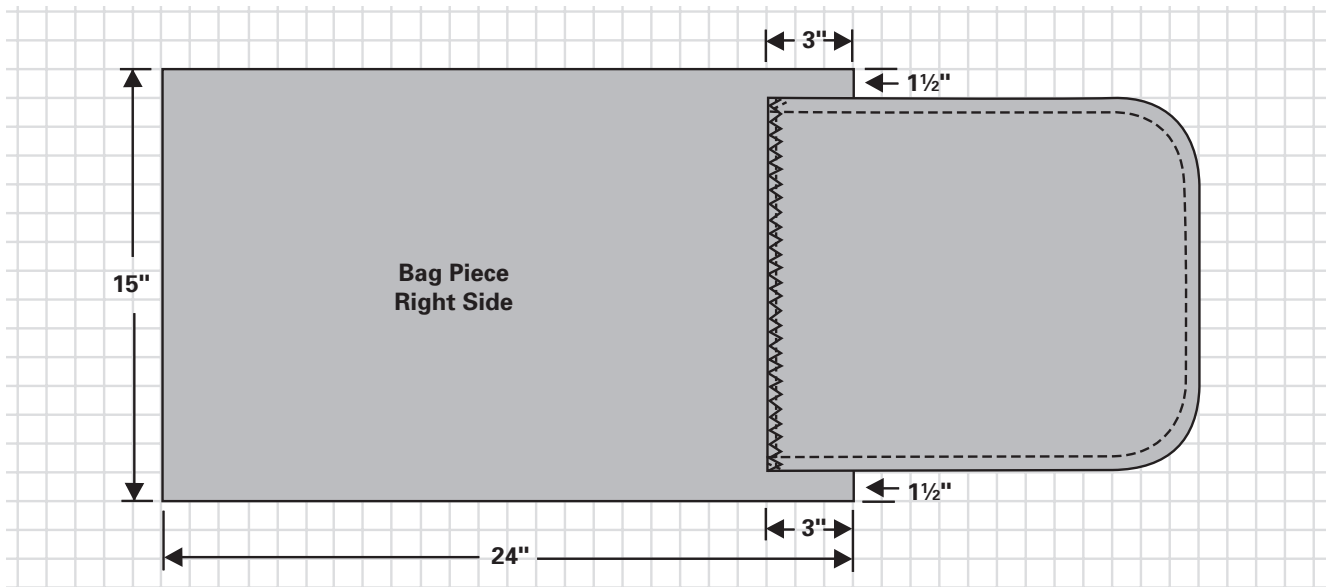

Fig. 7-3
4. Place the woven bag piece right side up on a flat surface. Use the fabric marker to draw a line 3 inches (7.5 cm) from one short end. Apply basting tape to the straight edge of the flap; remove the paper backing and center the flap on the bag rectangle, aligning the lower edge with the marked line. Stitch the flap straight edge to the bag using a wide zigzag stitch, backstitching at the ends to reinforce the stitching. (Fig. 7-3)